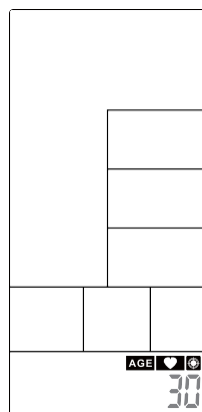

Figure 45
- ① In Standby mode, press Target Heart-Rate key and **AGE** will light up, along with along sound for 1s.
- ② AGE value is flashing, press UP and DOWN to preset your Age (Figure 45). Press ENTER to confirm along with buzzer beeps 1s and **HEART RATE** last lighting up.